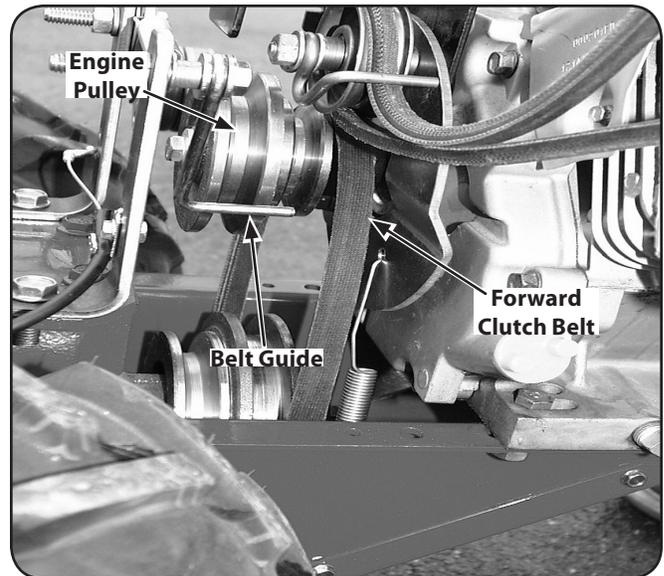
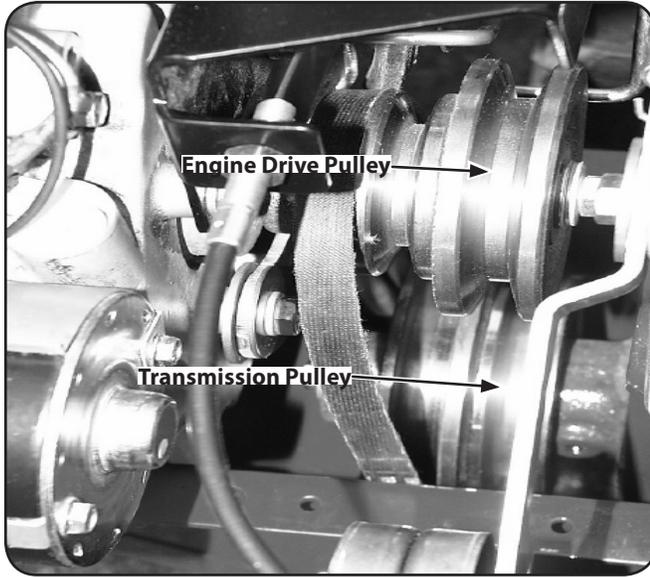

Figure 7-3
Figure 7-4
5. Slide the belt off the engine pulley, away from engine, out from under the belt guide and completely off the pulley. See Fig. 7-3.
- Slip the belt off the front of the transmission pulley. See Fig. 7-4.
- Insert the bottom half of the belt into the smaller, rear-most groove of the transmission pulley. See Fig. 7-4. Now slip the top half of the belt under the belt guide (See Fig. 7-3) and onto the large groove of engine drive pulley. See Fig. 7-4.